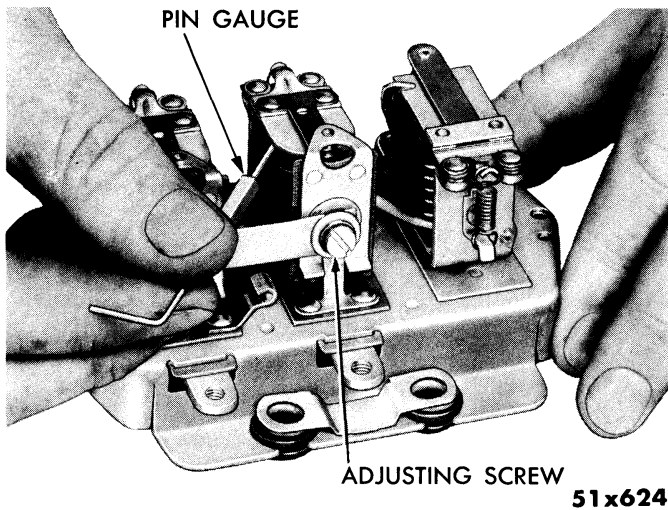

Figure 17—Checking Regulator Air Gaps
2. **CHECKING CURRENT AND VOLTAGE REGULATOR AIR GAPS**—Use the pin type gauge (from Kit C-828) which measures from .048 to .052 inch. Insert gauge on point side of air gap and next to armature stop pin with the contact points just separating. See Figure 17.